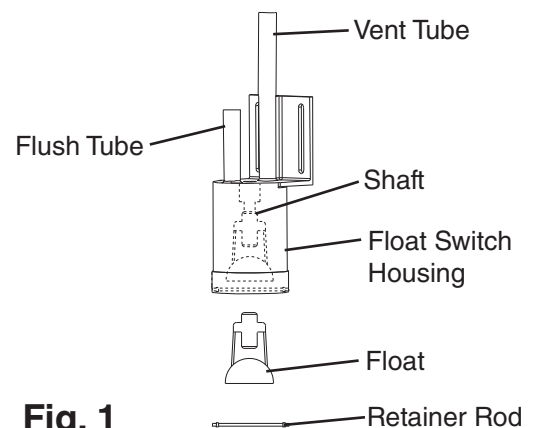

Fig. 1
- 7) Disconnect the vent tube and the flush tube from the top of FS housing, then remove FS assembly. Remove the rubber boot from the bottom of FS assembly. See Fig. 1.